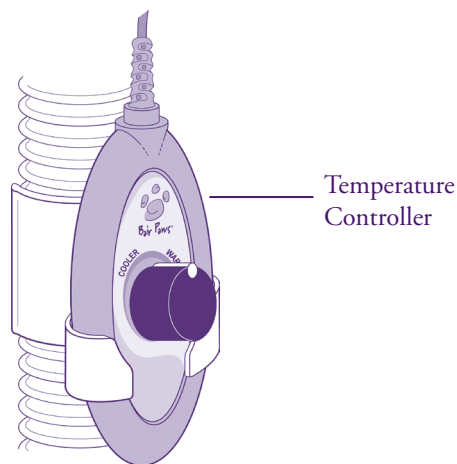

Figure 7. Temperature Controller seated in holder.
2. Slide the temperature controller into the holder. It should fit securely with the dial facing the patient (see Figure 7).